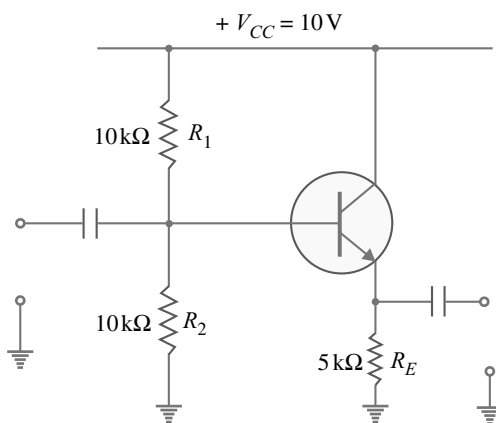

Fig. 11.30
**Example 11.26.** Determine the voltage gain of the emitter follower circuit shown in Fig. 11.30.